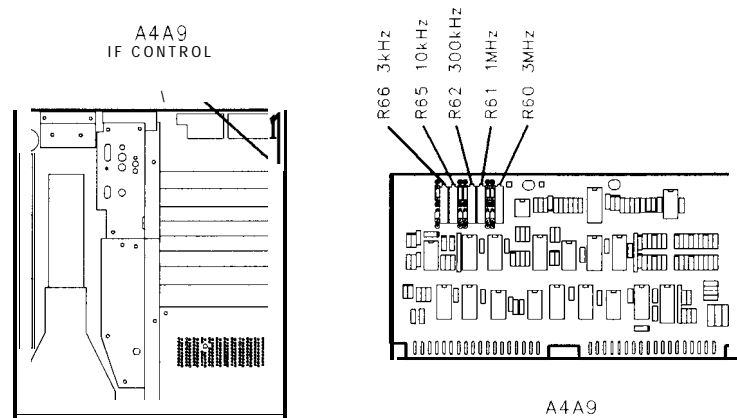

Figure 4-8. Location of Bandwidth Adjustments
6. Press **(PEAK SEARCH)**, **MKR → (CF)**, and **MARKER (Δ)**.
8. Adjust A4A9R60 3 MHz for MKR In] indication of 1.5 MHz while maintaining the marker at 0.430 X using the DATA knob. Refer to Figure 4-8 for the adjustment location.
- Adjust A4A9R61 1 MHz for MKR A indication of 500 kHz while maintaining the marker at 0.430 X using the DATA knob. Refer to Figure 4-8 for the adjustment location.
- Adjust A4A9R62 300 kHz for MKR A indication of 150 kHz while maintaining marker at 0.430 X using the data knob. Refer to Figure 4-8 for location of adjustment.
26. Adjust A4A9R65 10 kHz for MKR A indication of 5.00 kHz while maintaining the marker at 0.430 X using the DATA knob. Refer to Figure 4-8 for the adjustment location.
32. Adjust A4A9R66 3 kHz for MKR A indication of 1.5 kHz while maintaining the marker at 0.430 X using the DATA knob. Refer to Figure 4-8 for the adjustment location.